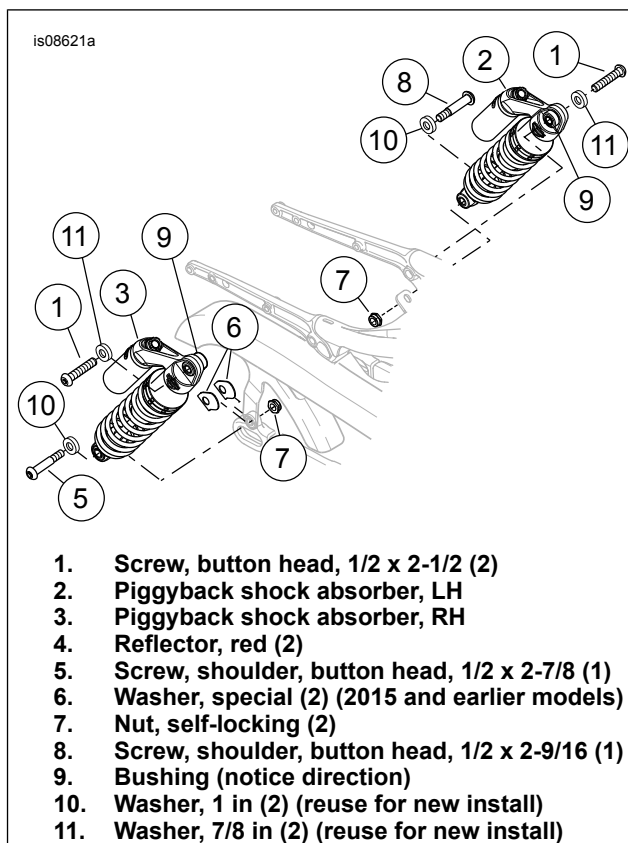

Figure 2. Rear Shock Absorber Installation
2. See Figure 2. Retain washers (10 & 11) for new shock installation.
1. See Figure 2. Loosely install upper shock mounting bolt (1) to **Both Sides**: Position the bushing (9) facing the inboard side. Install upper shock eye to frame:
- a. Verify bushing (9) is toward vehicle.
- b. Slide lower mounting bolt (5) through washer (10) and bottom shock eye.
- d. Slide lower mounting bolt through one special washer (6) (2015 and earlier models only).
- f. Slide lower mounting bolt through one special washer (6) (2015 and earlier models only).
- g. Apply Loctite 243 (blue) to lower shock bolt. Install nut (7).
The lower right side mounting bolt on Japan models must be inserted from inside the rear fork (Opposite of what is shown in Figure 2). Removal and installation of rear wheel is needed for this step.